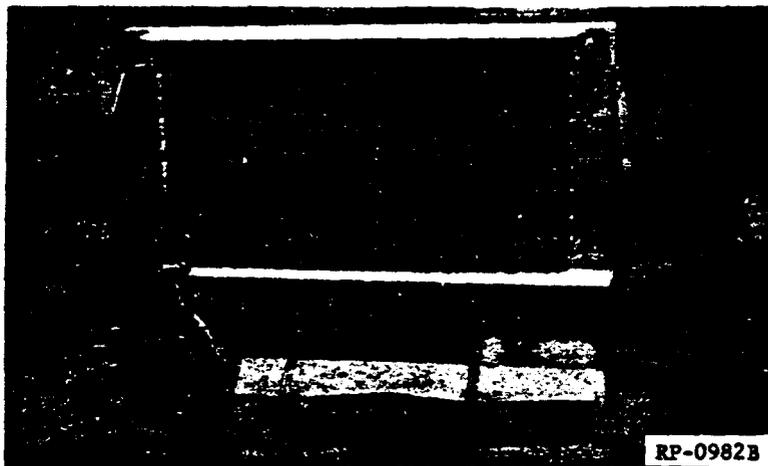

FIG. 9 FORM PROTECTED WITH CUT FIBER
7.11 Depending upon the size of the form, cut a piece of EM-552452 (1-1/2" Dia.) or EM-552448 (1" Dia.) Tubing about 5-6 inches long and slip over the end of the banded form, being sure the tube fits snug. When the tubing does not fit snug, slit the tube lengthwise and secure in place with two bands of twine or cable ties, 1/64 inch sheet fiber (EM583101) may be cut and wrapped around the form in place of the tubing. It must be secured in place in the same manner. See Figures 9 and 10.